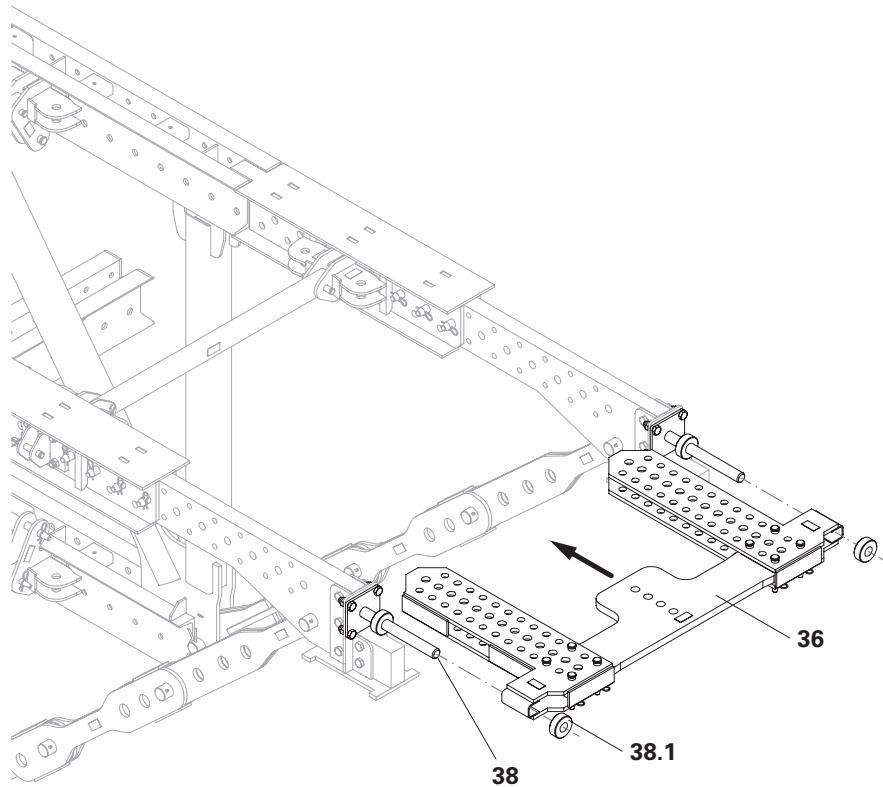

Fig. B2.11
5. Secure the bracing traverse with the nuts (**38.1**). (Fig. B2.11)